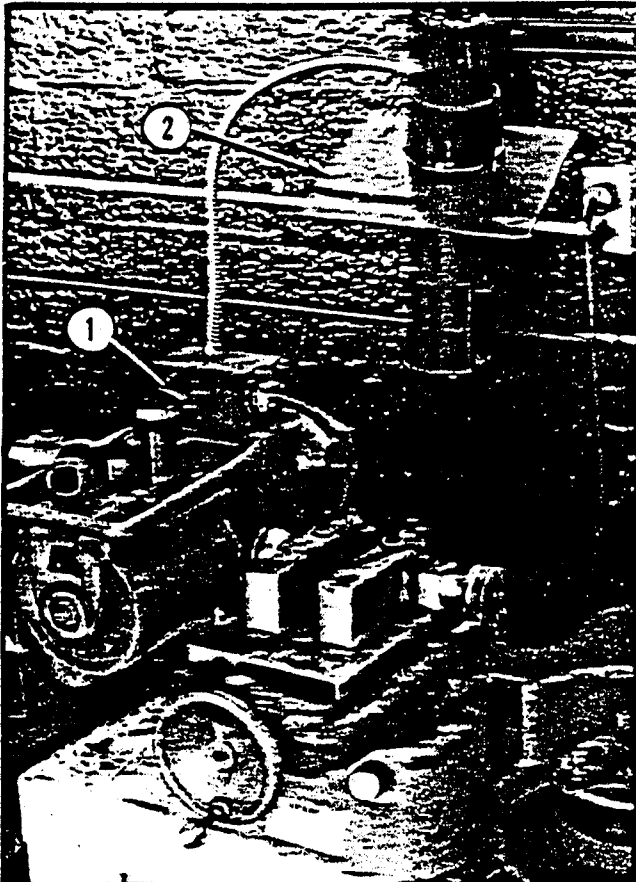

Figure 21. Head Stock Motor Switch
4. Turn headstock motor ON by placing headstock toggle switch "UP". See Figure 21.